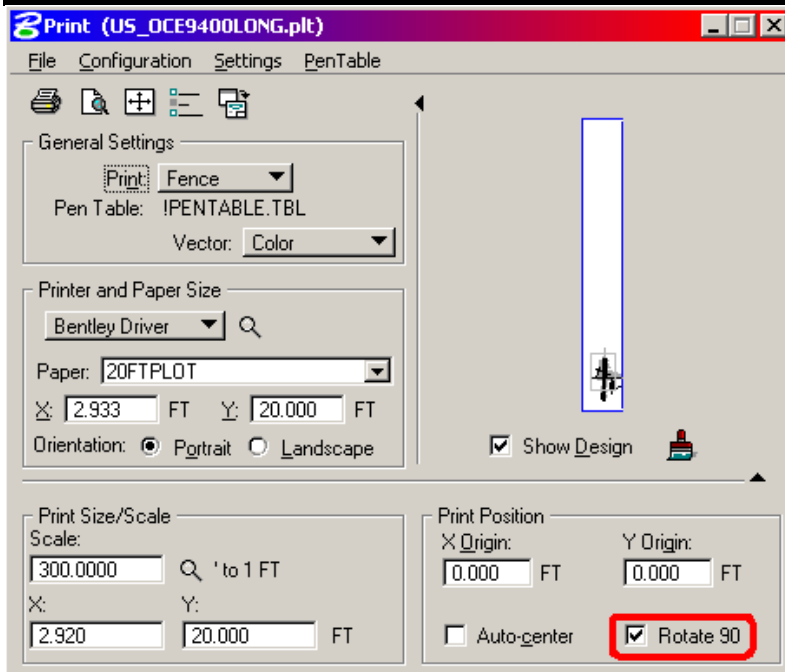

Figure 1-48: Print Rotate 90
- Based on the rotation you used in your view, it may be necessary to toggle the **Rotate 90** on or off to plot correctly (Figure 1-48).